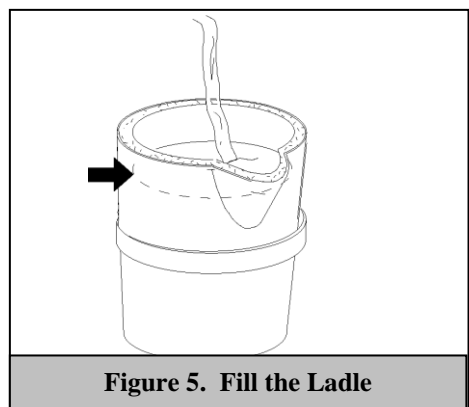

Figure 5. Fill the Ladle
Step 5: Fill the ladle with the molten metal. (See Figure 5.) Care must be taken to prevent overflowing to the point where spillage may occur. Refer to the current ANSI Z241.2 specifications and the ladle assembly drawing (see **Appendix E**).